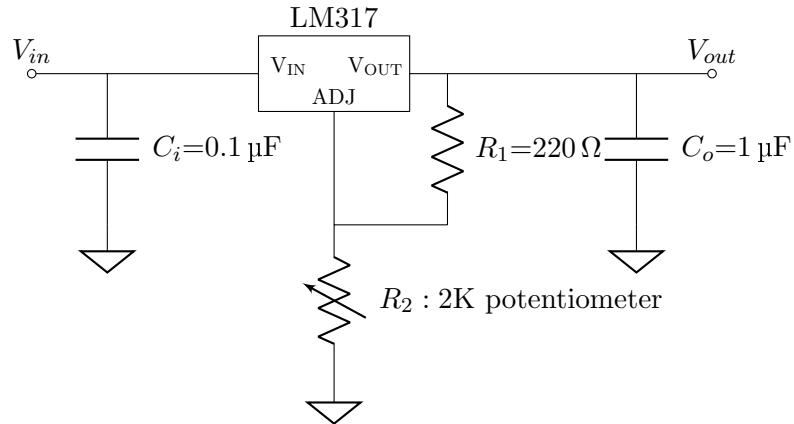

Figure 9: Schematic of the voltage regulator circuit using LM317.
1. Using Fig. 9 as a reference, build the regulator circuit on the breadboard. You should be able to find the LM317 pinout diagram from its datasheet, which you find from online. *As a general suggestion, it is important to keep your circuit well laid out and keep the connecting wires as short as*